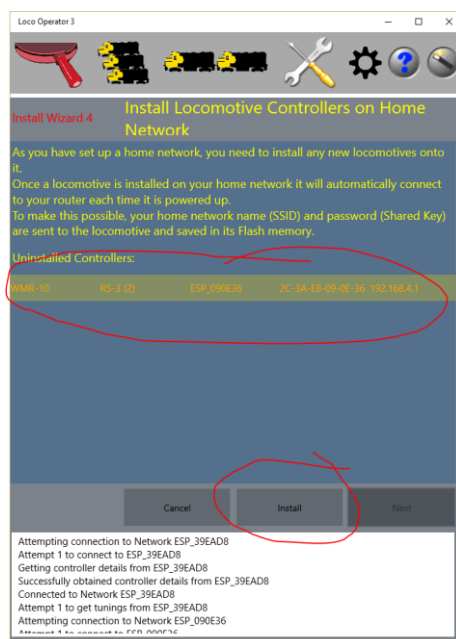

Figure 43 Installing Loco Controllers onto your Home Net
- (5) You now see the Install Wizard 4 screen as Figure 43. When the screen enters, any powered-up, uninstalled WDM-30 modules are discovered. Uninstalled locomotives are those that have not been given the SSID and Password to enable them to connect to your Home Network. Select them one by one and click the Install button. Then click Next.